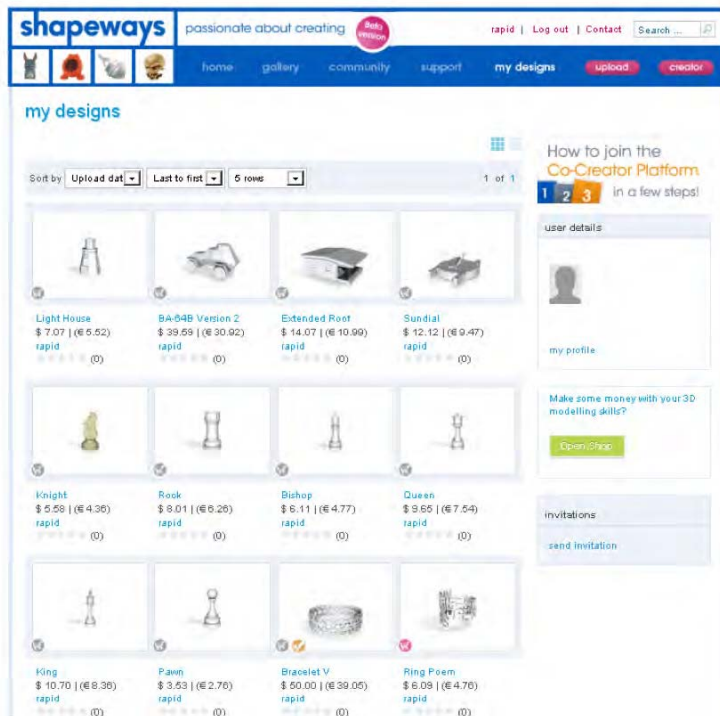

Figure 9–1. Shapeways “my designs” page
1. Browse to the “my designs” page on Shapeways where you can view a gallery of all your uploaded models designed throughout this book (Figure 9–1).
- At the bottom of the page, click Create Shop. A menu will appear; enter a name for your shop, enter a URL, and agree to the terms and conditions. Then click the Save button (Figure 9–2). If you haven’t filled in all the fields for the billing and shipping information, clicking Create Shop will do nothing.